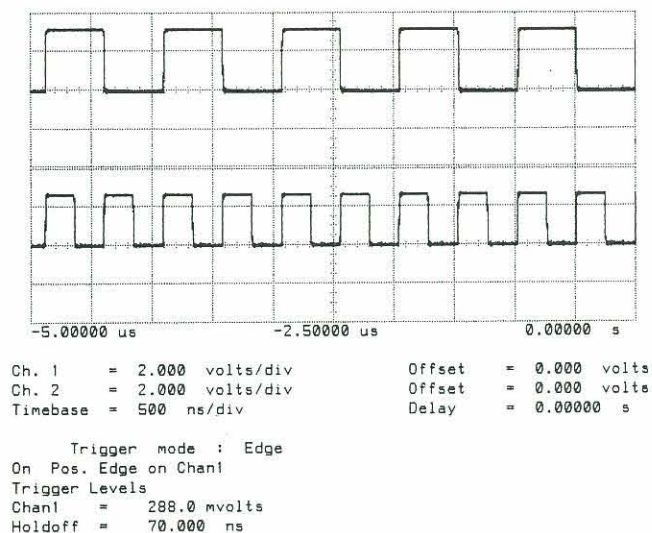

Figure 8-3 Binary Clock and Data Outputs (TTL)
4. Verify the Clock duty cycle is (50±6)% and the signal levels are as shown in Figure 8-3, typically  $V_L = 0V$  and  $V_H = 3V$ .